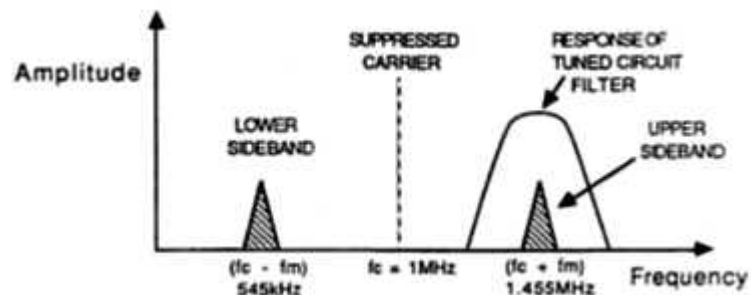

Fig.2.9
2. By passing the Upper Side, and blocking the Lower Sideband, using a tuned circuit band pass filter, as shown in Figure 2.9&2.10.